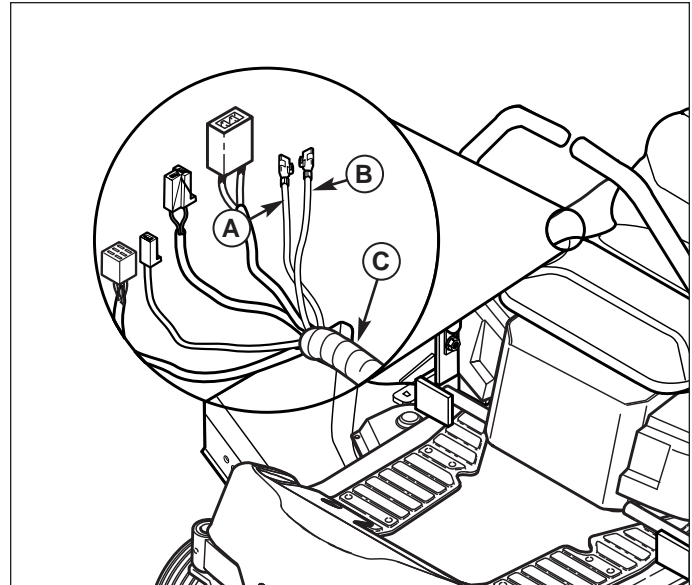

Figure 4. Switch Wire Connections
9. Locate a red w/blue wire (A, Figure 4) and green w/black wire (B) taped to the main wire harness (C). Remove tape securing the wires to harness.